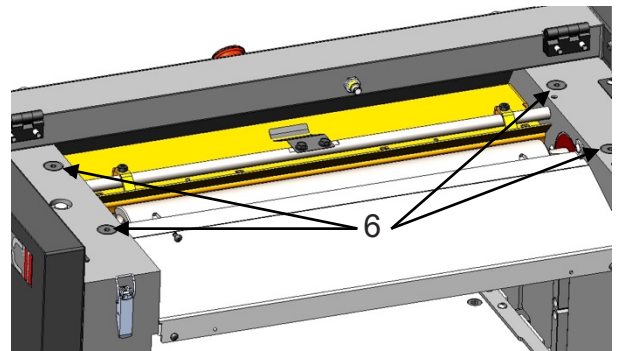

Figure 27: Lubrication
-Every 30 hours, lubricate the bushings. (Fig. 27)